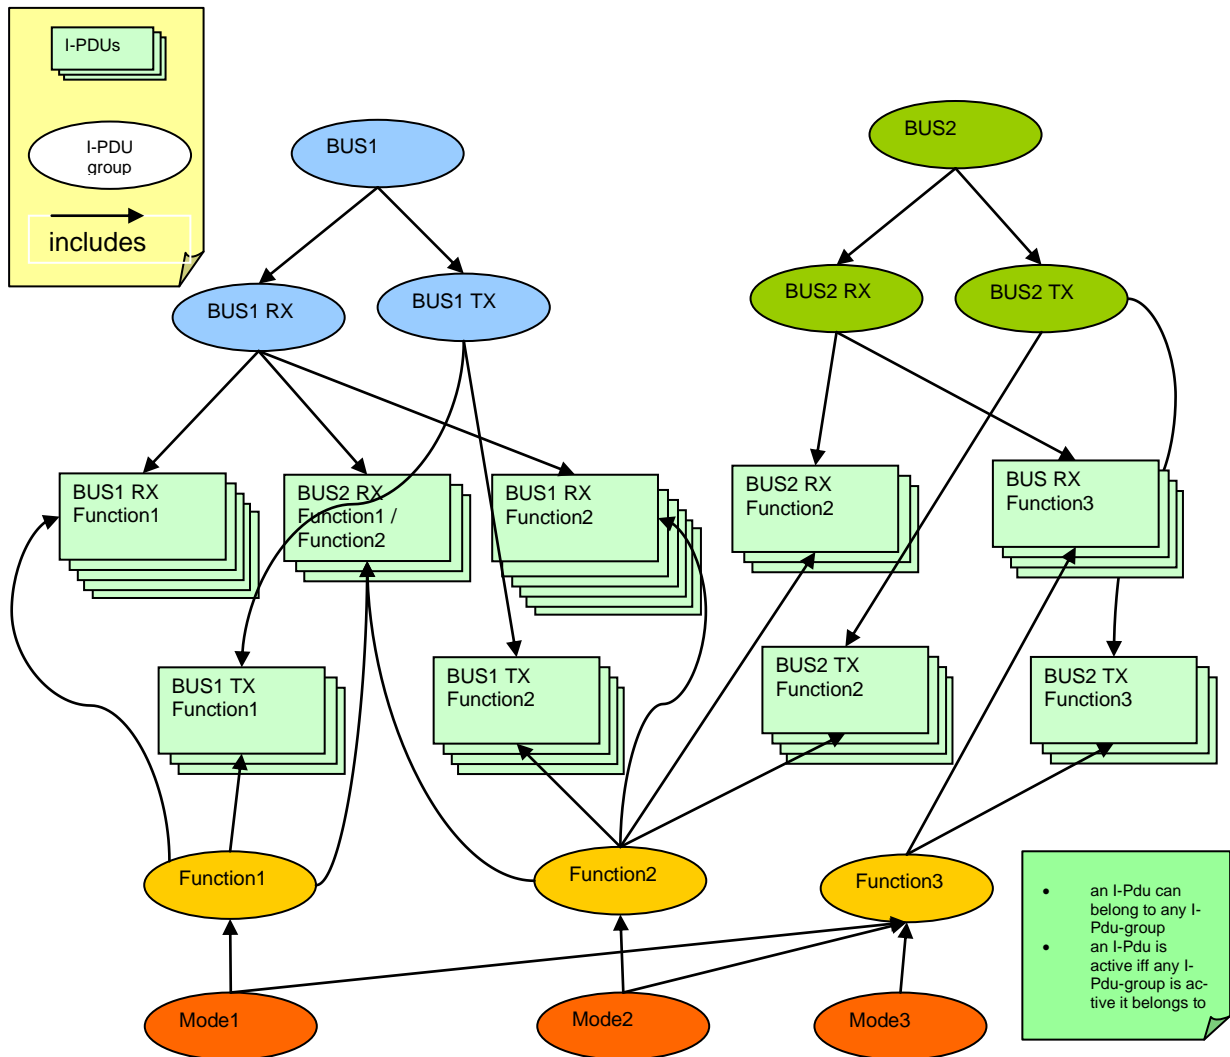

Figure 4: Example usage of I-PDU groups
**[SWS\_Com\_00279]** [If a new send request is received from the RTE while sending *n* transmissions belonging together (e.g. after the 3rd of 5 repetitions, see SWS\_Com\_00305) the AUTOSAR COM module shall cancel the outstanding transmission repetitions and start processing the new request within the next main function at the latest, see Figure 4.] (SRS\_Com\_02080)
Once again, the COM module does not know or handle any grouping of I-PDUs. The I-PDU grouping must be handled either via configuration or by the calling module. The Figure 4 shows an exemplary usage of the AUTOSAR COM module, but does not define any functionalities of the AUTOSAR COM module.